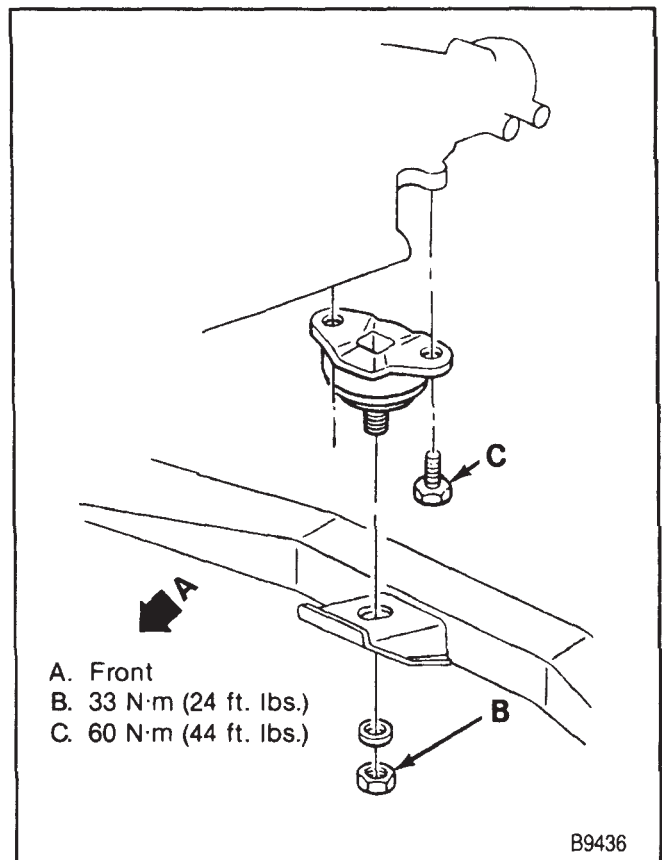

Figure 37—Rear Engine Mounting
**Remove or Disconnect (Figure 37)**
**↔ Install or Connect (Figure 37)**
- Fasteners to specifications. Refer to figure 37.